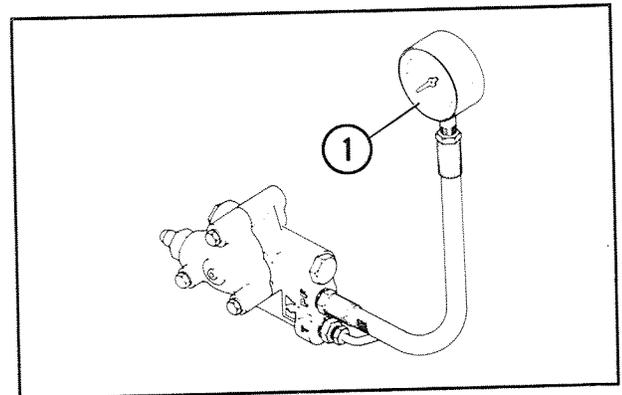

Figure 23
3. Operate the engine at a high speed and fully turn the steering wheel. Read the pressure gauge when the relief valve is activated, Figure 23. Set pressure of relief valve: 758-925 PSI (55-65 kg/cm²).